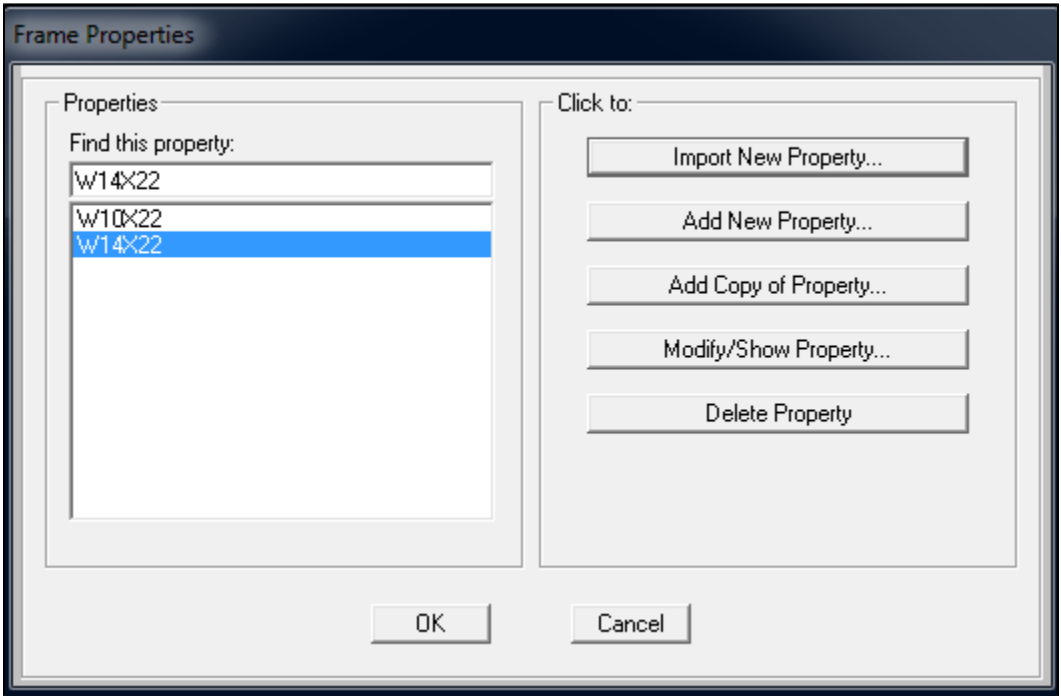

Figure 1 - Frame properties menu
**Nonprismatic frame objects** should initially be drawn with a constant cross section, then assigned a tapered section definition. To begin, select Define > Section Properties > Frame Sections to ensure that the start and end sections of the tapered **frame** are available in the Frame Properties menu, shown in Figure 1: